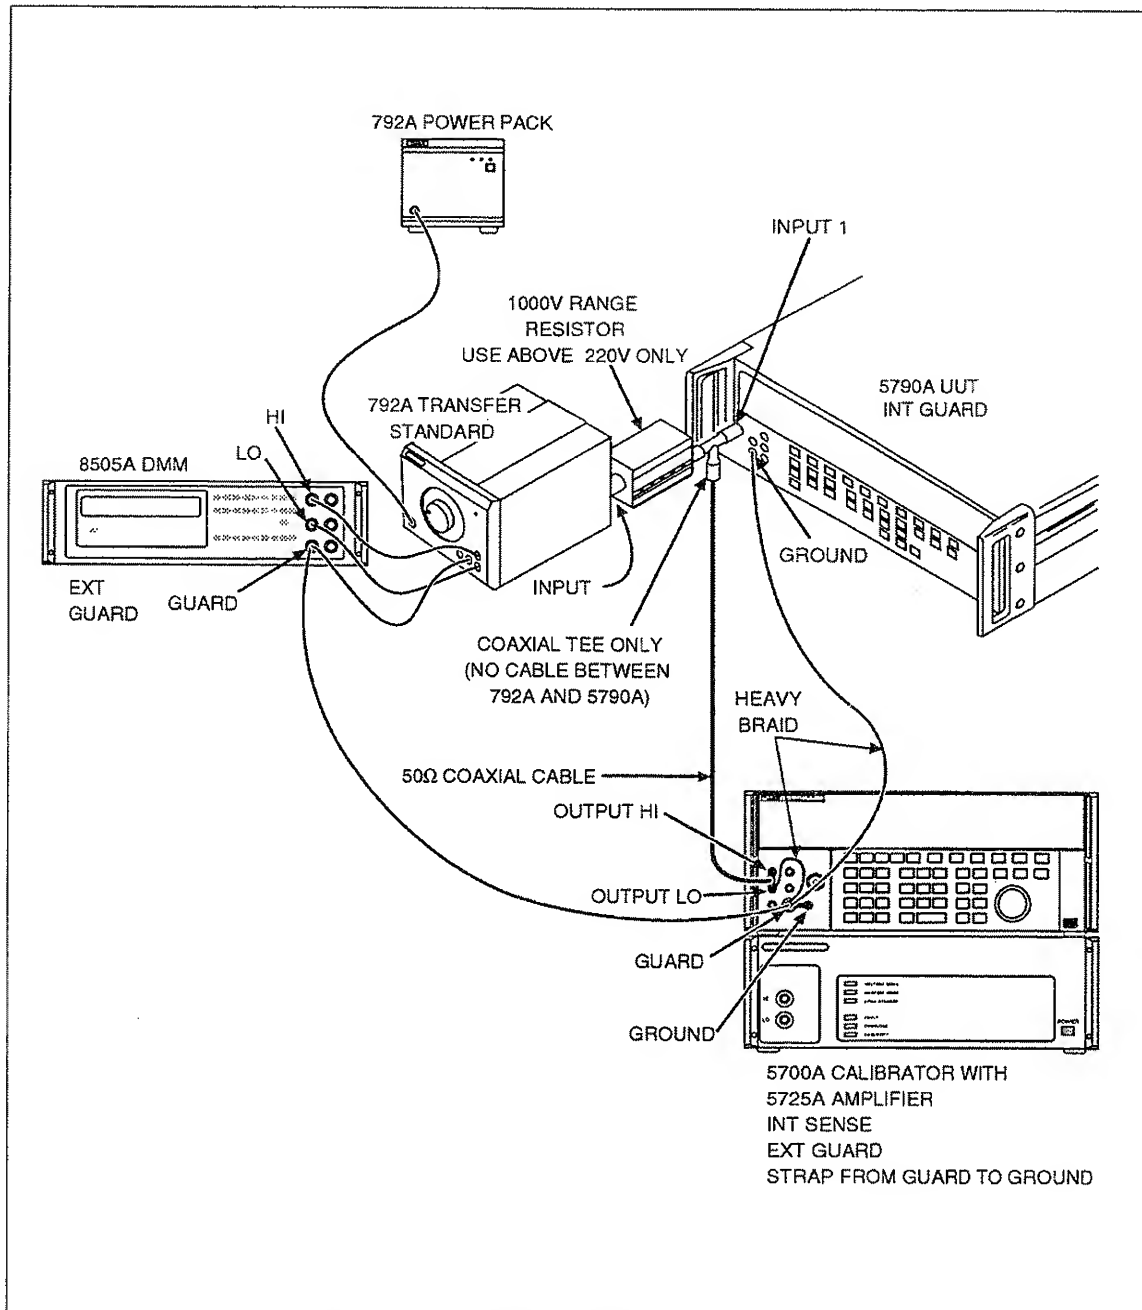

Figure 3-8. 5790A AC Calibration Test Setup
1. Set up the equipment as shown in Figure 3-8. Connect the 792A without the 1000V range resistor first.
- b. If the test voltage is above 220V, add the 792A 1000V range resistor to the test setup as shown in Figure 3-8.